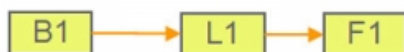

Figure 2
- The functional channel can be represented by the guard switch (B1) that corresponds to the input block (see figure 2).